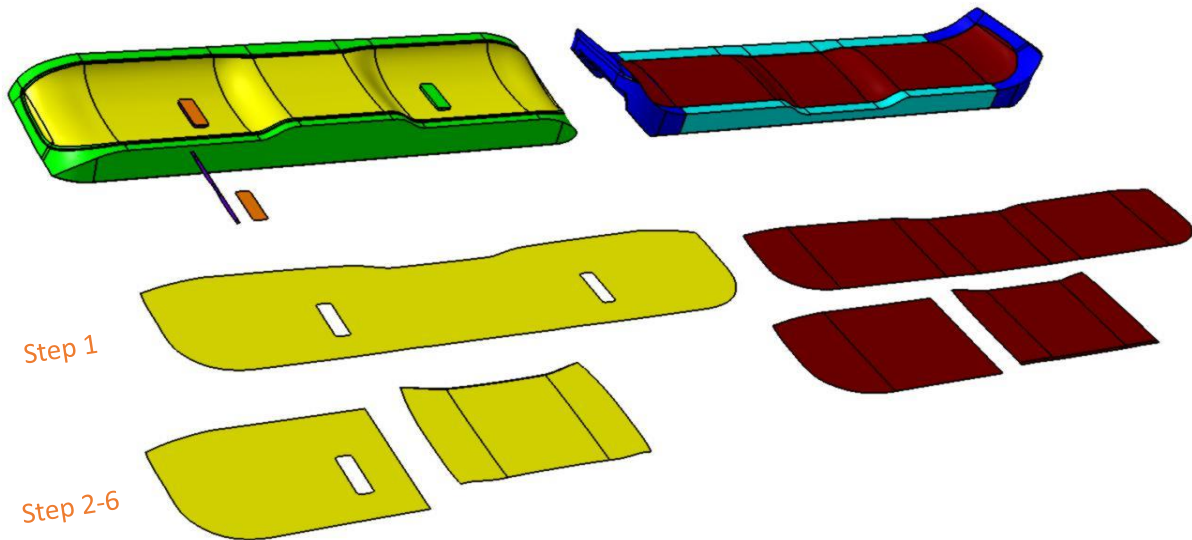

Figure 262
55. By clicking on the define colors button  the Color Dialog will extend and will give you the option to define new colors by entering the RGB (Red, Green, Blue) values directly. Based on Figure 262, since our selected MasterCuts are colored yellow (RGB 135,135,0), we can also simply enter this values and click  to confirm.